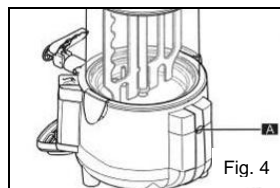

Fig. 4
In order to restart the device remove the protective screw (A) with appropriate tool. (fig. 4)